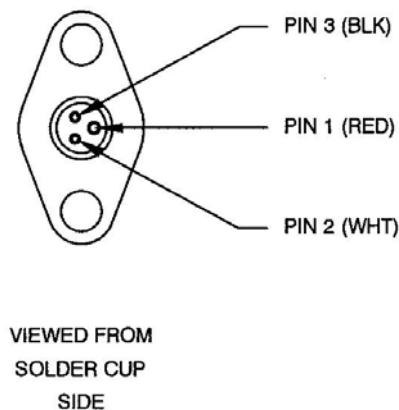

Figure 4-4 Wiring of cylinder electrical connector
1. Press bearing (1) into rod end (2).
2. Install two piece piston seal (16),(17) into seal groove of piston/rod (14). Place bearing (15) in groove of piston.
3. Lightly grease and install three piece rod seal (5) into groove of cylinder head (7). Make certain seal is oriented as shown in assembly drawing.
4. Lightly grease and install two piece wiper (3),(4) in groove of cylinder head. Make certain seal is oriented as shown in assembly drawing.
5. Install O-ring (9) and backup ring (8) in groove of cylinder head. Make certain that backup ring is on the correct side of the O-ring and oriented with the cup towards the O-ring.
6. Lightly grease rod bore of cylinder head with Lubriplate 1200-2 grease. Carefully push cylinder head with twisting motion over the piston rod (14) being careful not to damage seals.
7. Apply Loctite 242 to threads of rod end (2) and screw into piston rod (14). Hand tighten holding piston rod. Remove excess Loctite.
8. Lightly grease chamfer and about 1" of bore on one end of cylinder barrel (13). Lightly grease piston and carefully insert piston rod/head assembly into the cylinder barrel. Secure with fasteners (6) and Loctite 242. Torque to 23 inch lbs. Remove excess Loctite. Check that cylinder extends/retracts smoothly.
9. Place wave spring washer (21) in plate (23). Feed wires of potentiometer element (21) through washer and plate. Slide retaining ring (19) over potentiometer element and install in groove of plate.
10. Apply silicone grease to O-ring (27) and install onto electrical connector (28).
11. Feed the potentiometer element wires through the hole in the side of cavity and out the large O-ring port of the cylinder cap (25). Cut heat shrink in to three 1/4" lengths place on wires. Solder wires to connector per Figure 4-4 and secure heat shrink over solder cups.